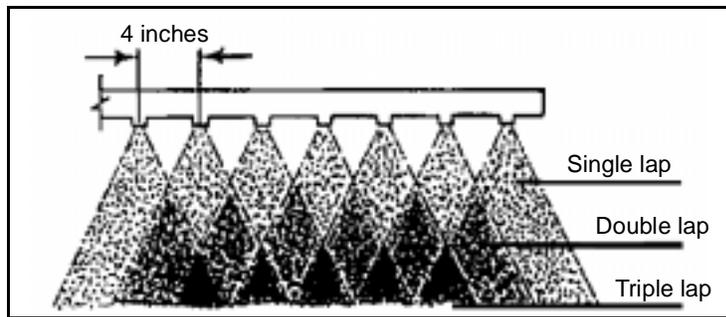

Figure 12-2. Perfect Triple Lap
- **Nozzle spacing.** Spray bars are usually constructed with either a 4- or 6-inch nozzle spacing. With 4-inch nozzle spacing, the best application results are attained using a triple lap of the spray fans (*Figure 12-2, page 12-6*). To determine the proper spray-bar height for triple-lap coverage, open every third nozzle on the spray bar. Raise the bar until there is single-layer coverage along the entire length of the bar. Do a visual inspection to determine this. When all the nozzles are opened, this height will furnish a triple lap of the spray fans. Use the same procedure for double-lap coverage except only open every other nozzle. When using 6-inch nozzle spacing, the height of the bar necessary to give a triple-lap coverage will frequently allow wind distortion of the spray fans, resulting in a nonuniform application. Therefore, with 6-inch nozzle spacing, only a double lap may be achieved.